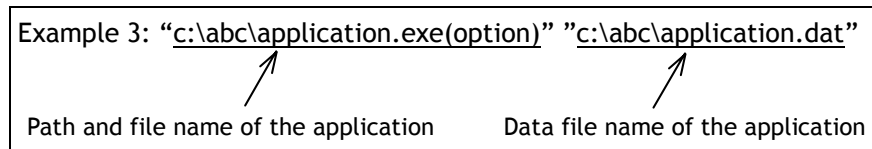

Figure 13.3 Example Application Name
- **Application Name:** Specifies a path and a file name of the application to be activated. See Figure 13.3. When the file name is long, enclose it with the quotation marks ("). When specifying a data file name of the application, specify the full path if the data file is not in the same directory in which Storage Navigator Modular is located.